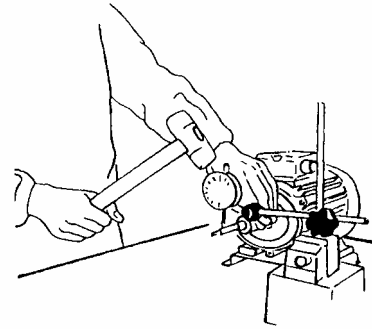

Fig. 13
- 18) After had threaded the shaft-pump (pos.9) on the shaft-motor and fix with the screw (pos.14), turn the rotor manually, and with one rubber or plastic hummer, after have measured the state of the balancing of the piece with the comparator, strike delicately until finding a value of balance not advanced to 0.03 millimeter **fig.13. (Only CDM series)**.
- 19) Mount the mechanical seal on the shaft covering (pos.16).